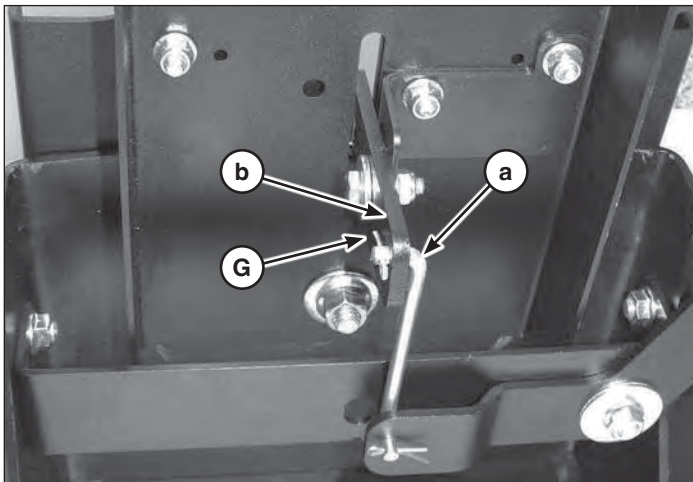

Figure 10
- Insert pin (**a**, Figure 10) into the latch bar (**b**) and secure with cotter pin (**G**). Slightly bend the longer leg of the cotter pin.